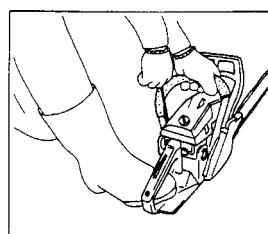

Fig. 2-4
3. Pull recoil starter slowly until you feel compression resistance, and then pull briskly, taking care to keep the handle in your grasp and not allowing it to snap back. (Fig.2-4)